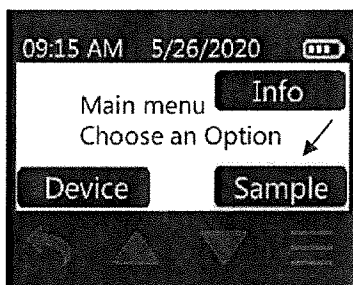

Figure 10. Sample Button
1. From the Main Menu, touch Sample (Figure 10).